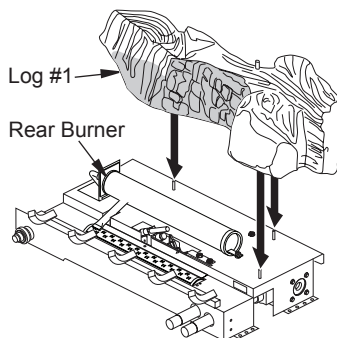
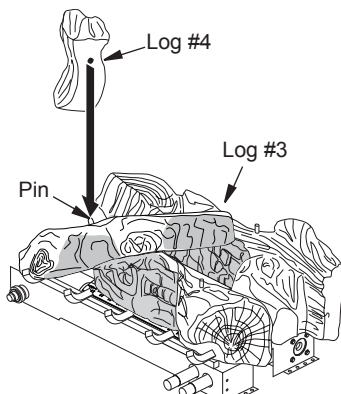

Figure 23 - Installing Log #1
Figure 26 - Installing Log #4
1. Align three pins on base with three holes in bottom of back log (#1). Place log on pins (see Figure 23). Log #1 will wrap around right end of rear burner.
4. Align hole in bottom of top left log (#4) with pin on log #3. Place log on pin (see Figure 26, page 20). The other end of log #4 will rest on left end of rear burner (see Figure 23).